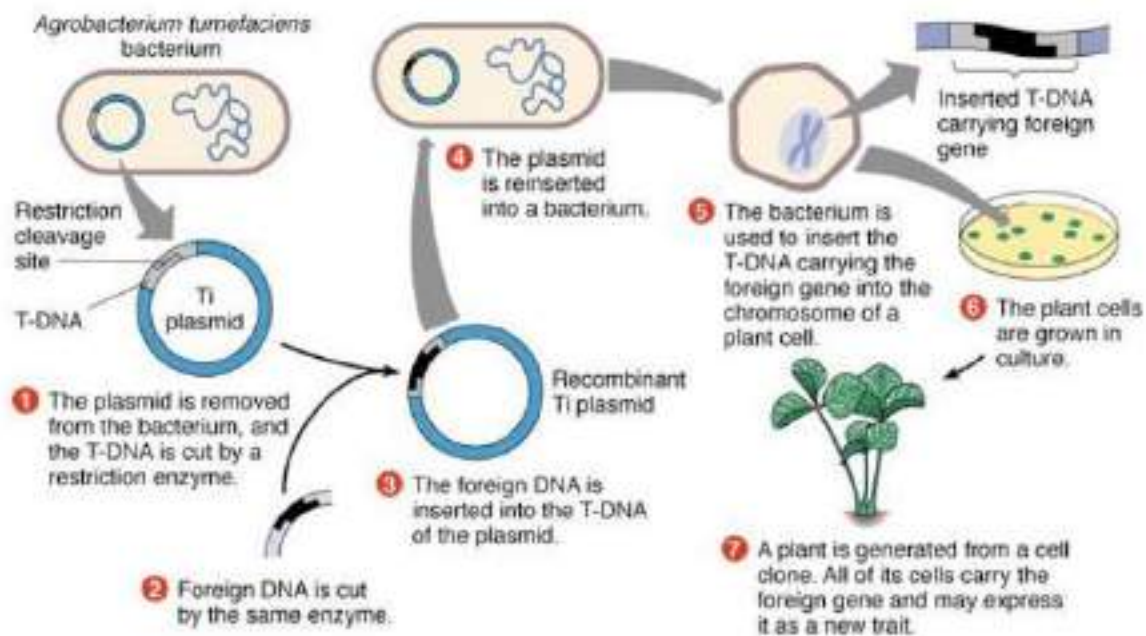

Figure.1. *Agrobacterium* based gene transfer method
- It is also called **nature's genetic engineer**. The *Agrobacterium* method is explained in Figure.1.